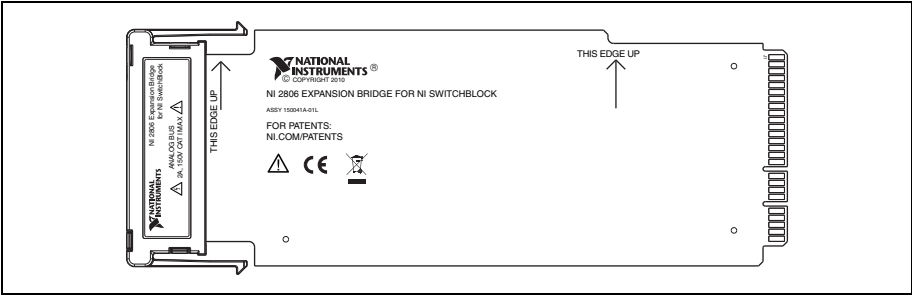

Figure 2. Correct Orientation of the NI 2806 Expansion Bridge
6. Ensure that you hold the expansion bridge in the correct orientation as shown in Figure 2. Note the THIS EDGE UP silk screen on the PCB.
If the latches do not engage, ensure that the expansion bridge is inserted in the orientation shown in Figure 2. The expansion bridge fully inserts only with the correct edge up.